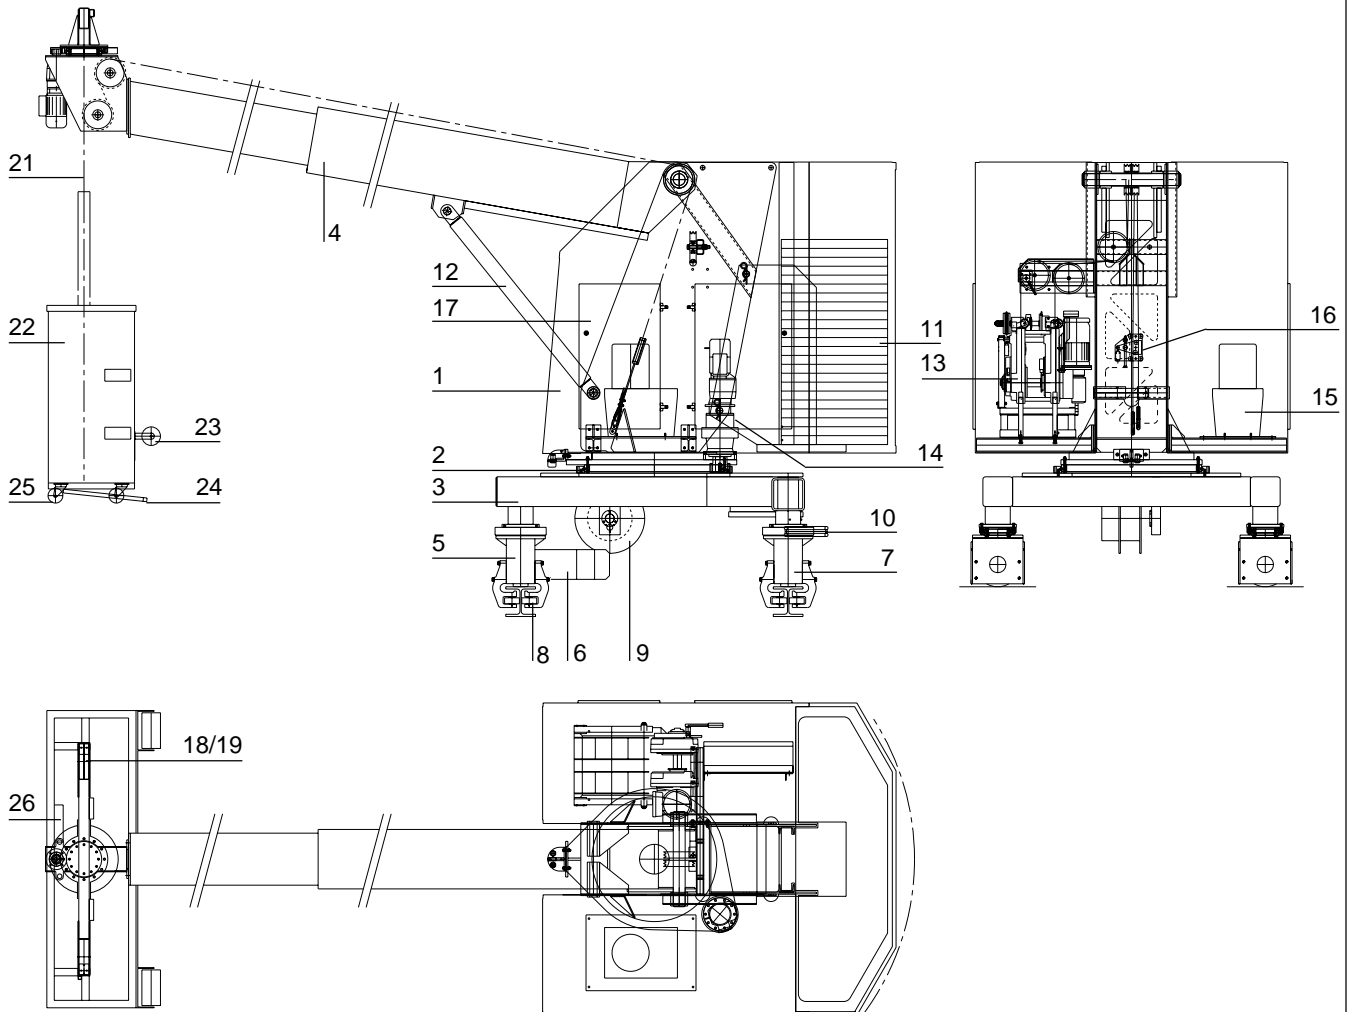

Fig. 3
5. MAIN COMPONENTS OF A STANDARD MACHINE – Serie Ju600 (see figure 3)